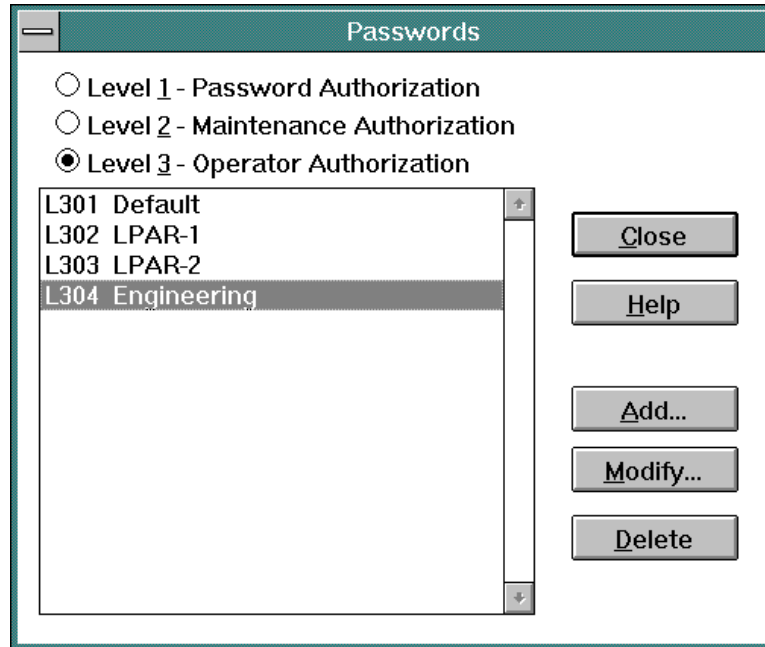

Figure 10-8. Passwords Dialog Box (LPAR Example)
5. Click the *OK* button. The operator ID (**L304**) and description (**Engineering**) appear in the list box at the *Passwords* dialog box (Figure 10-8).